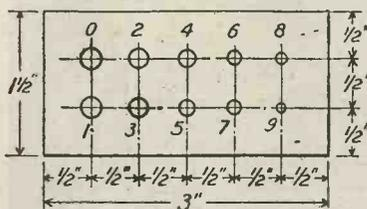

Fig. 1.—The B.A. screw gauge plate.
**A** VERY useful B.A. screw gauge can be made at home with very little trouble. It consists simply of a plate made from sheet brass  $\frac{3}{16}$ -in. thick and measuring 3 in. by  $1\frac{1}{2}$  in. The dimensions can be reduced considerably if desired, but it is not advisable to do so, since if gauge plates are made very small they are so easily mislaid or lost. The plate is marked out as shown in Fig. 1, tapping holes for the even-numbered sizes being made along the top row and for odd-numbered sizes along the bottom row. If you do not possess a full set of B.A. taps the best plan is to drill the holes tapping size and to have them threaded for you by the handyman at an electrical shop. This job will be quite an inexpensive one, and the cost will be amply repaid by the usefulness of the gauge which enables you to discover in a moment the size of any particular screw.